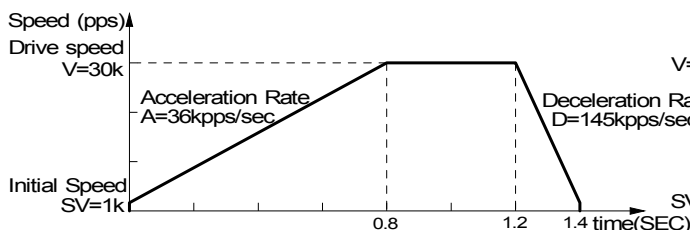
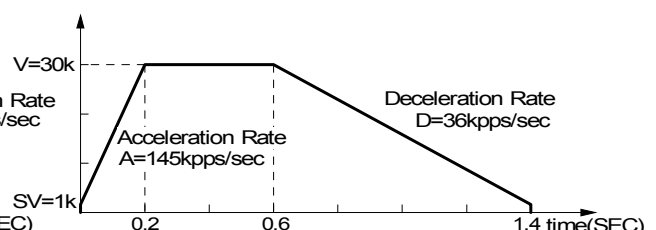

Fig.2.11 Non -Symmetrical Linear Acceleration Driving (acceleration<deceleration)
Fig.2.12 Non -Symmetrical Linear Acceleration Driving (acceleration>deceleration)
This IC can perform automatic deceleration in fixed pulse driving in non-symmetrical linear acceleration where the acceleration and the deceleration are different. It is not necessary to set a manual deceleration point by calculation in advance. Fig. 2.11 shows the case where the deceleration is greater than the acceleration and Fig. 2.12 shows the case where the acceleration is greater than the deceleration. In such non-symmetrical linear acceleration also, the deceleration start point is calculated within the IC based on the number of output pulses P and each rate parameter.
- In the case of acceleration > deceleration (Fig. 2.12), the following condition is applied to the ratio of the acceleration and the deceleration.
- If acceleration > deceleration (Fig. 2.12), the greater the ratio of acceleration A to deceleration D becomes, the greater the number of creep pulses becomes (about maximum of 10 pulse when A/D=10 times). When creep pulses cause a problem, solve the problem by ①increasing the initial speed or ②setting a minus value to the acceleration counter offset.